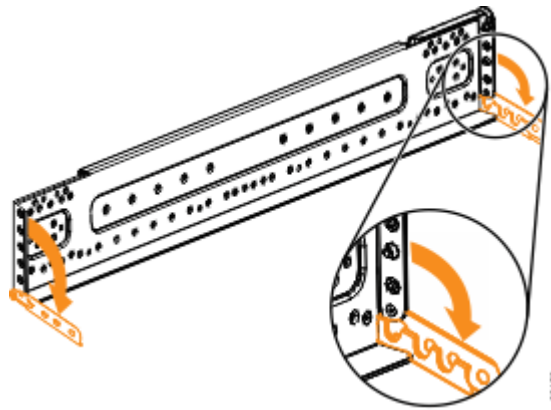

Figure 29. Opening the hinge brackets
4. At each end of the rail, grasp the tab **1** and pull *firmly* to open the hinge bracket. See Figure 29 on page 61.